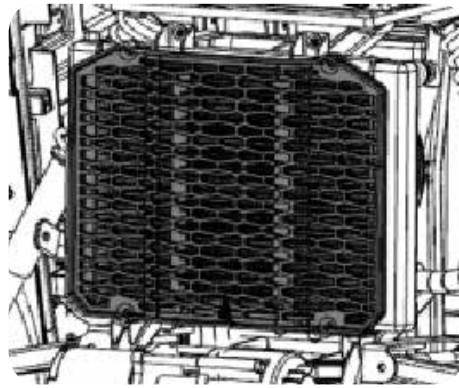

Figure 5-14
- Detach the screen and clean the radiator and radiator screen and radiator fins of all debris. See Figure 5-14.